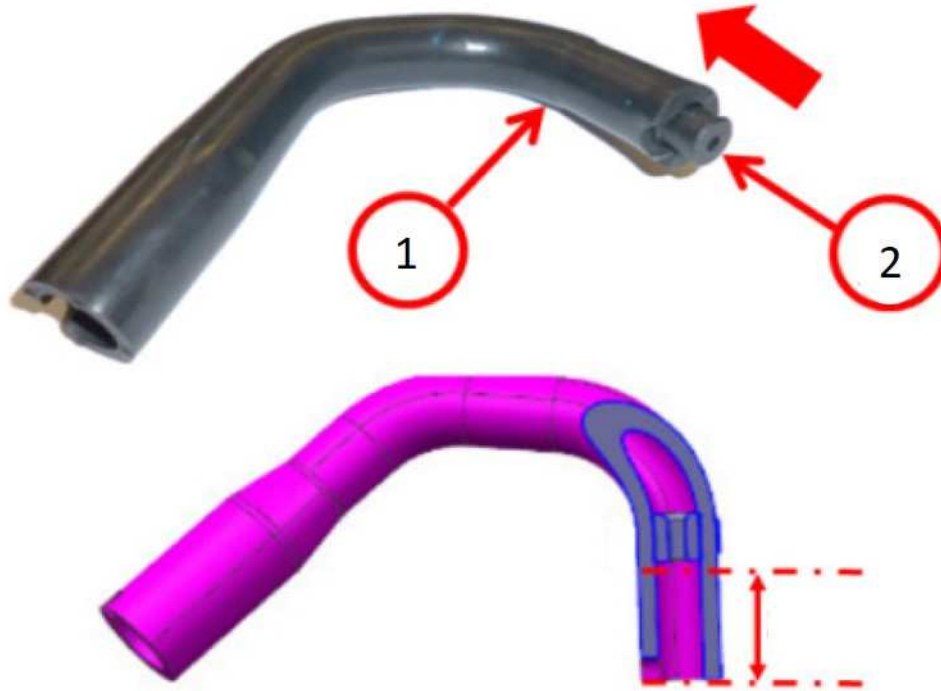

Fig. 2
3. Insert the restrictor with larger hole into the tube, making sure that the side with the smaller hole is towards the connector on the intake air chamber (Fig. 2) . Take great care when inserting the restrictor into the tube.
4. The restrictor must be inserted into the tube to a depth of 26-27 mm (1 in) (Fig. 2) .
5. The side with the smaller hole must be towards the intake air chamber and the side with the larger hole must be towards the oil vapor separator (Fig. 2) .
6. The restrictor must then be clamped in position with a band, and the insulating sheath must be fixed to the tube as described below (Fig. 2) .